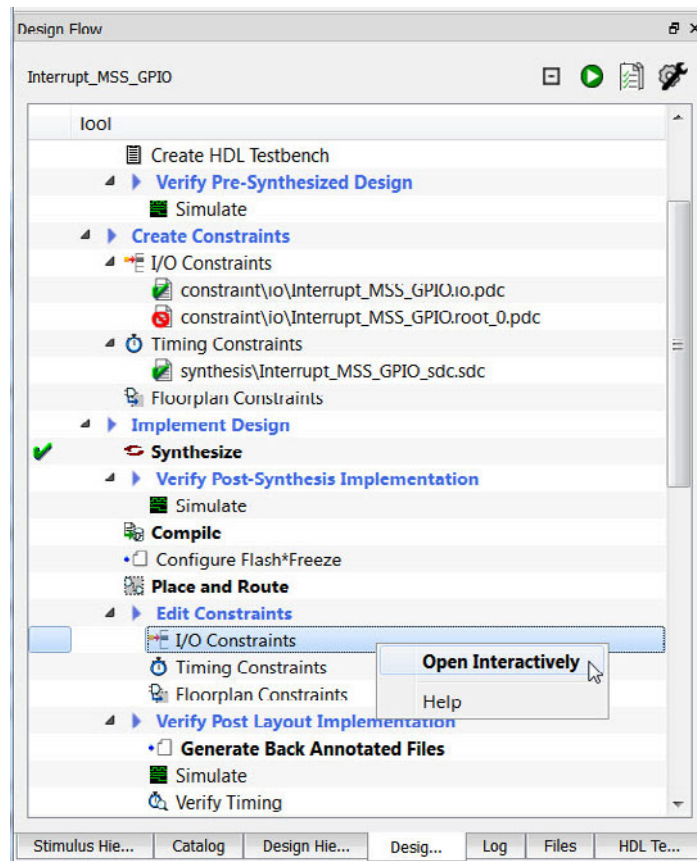

Figure 5-1 • I/O Constraints Editor Invocation
1. Expand Place and Route. Right-click **I/O Constraints** and choose **Open Interactively** to open the I/O Constraints Editor (Figure 5-1).